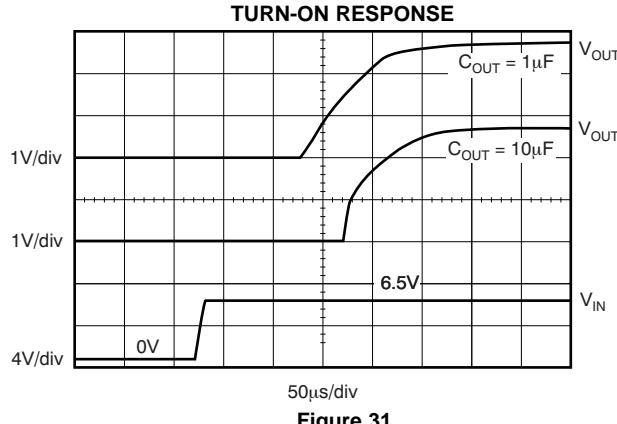

Figure 31.
Note that for fastest startup, V_{IN} should be applied first, then the enable pin (EN) driven high. If EN is tied to IN, startup will be somewhat slower. Refer to Figure 31 in the Typical Characteristics section. The quick-start switch is closed for approximately $135\mu s$. To ensure that C_{NR} is fully charged during the quick-start time, a $0.01\mu F$ or smaller capacitor should be used.